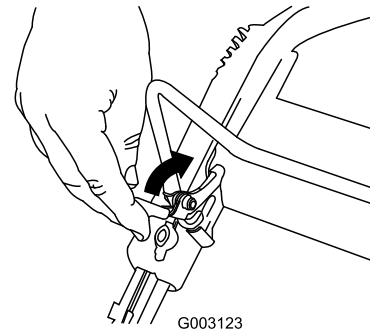

Figure 15
To shut off the engine, press and hold the engine-shutoff button (Figure 15) until the engine shuts off.
1. Pull the control-bar lock back (Figure 15).